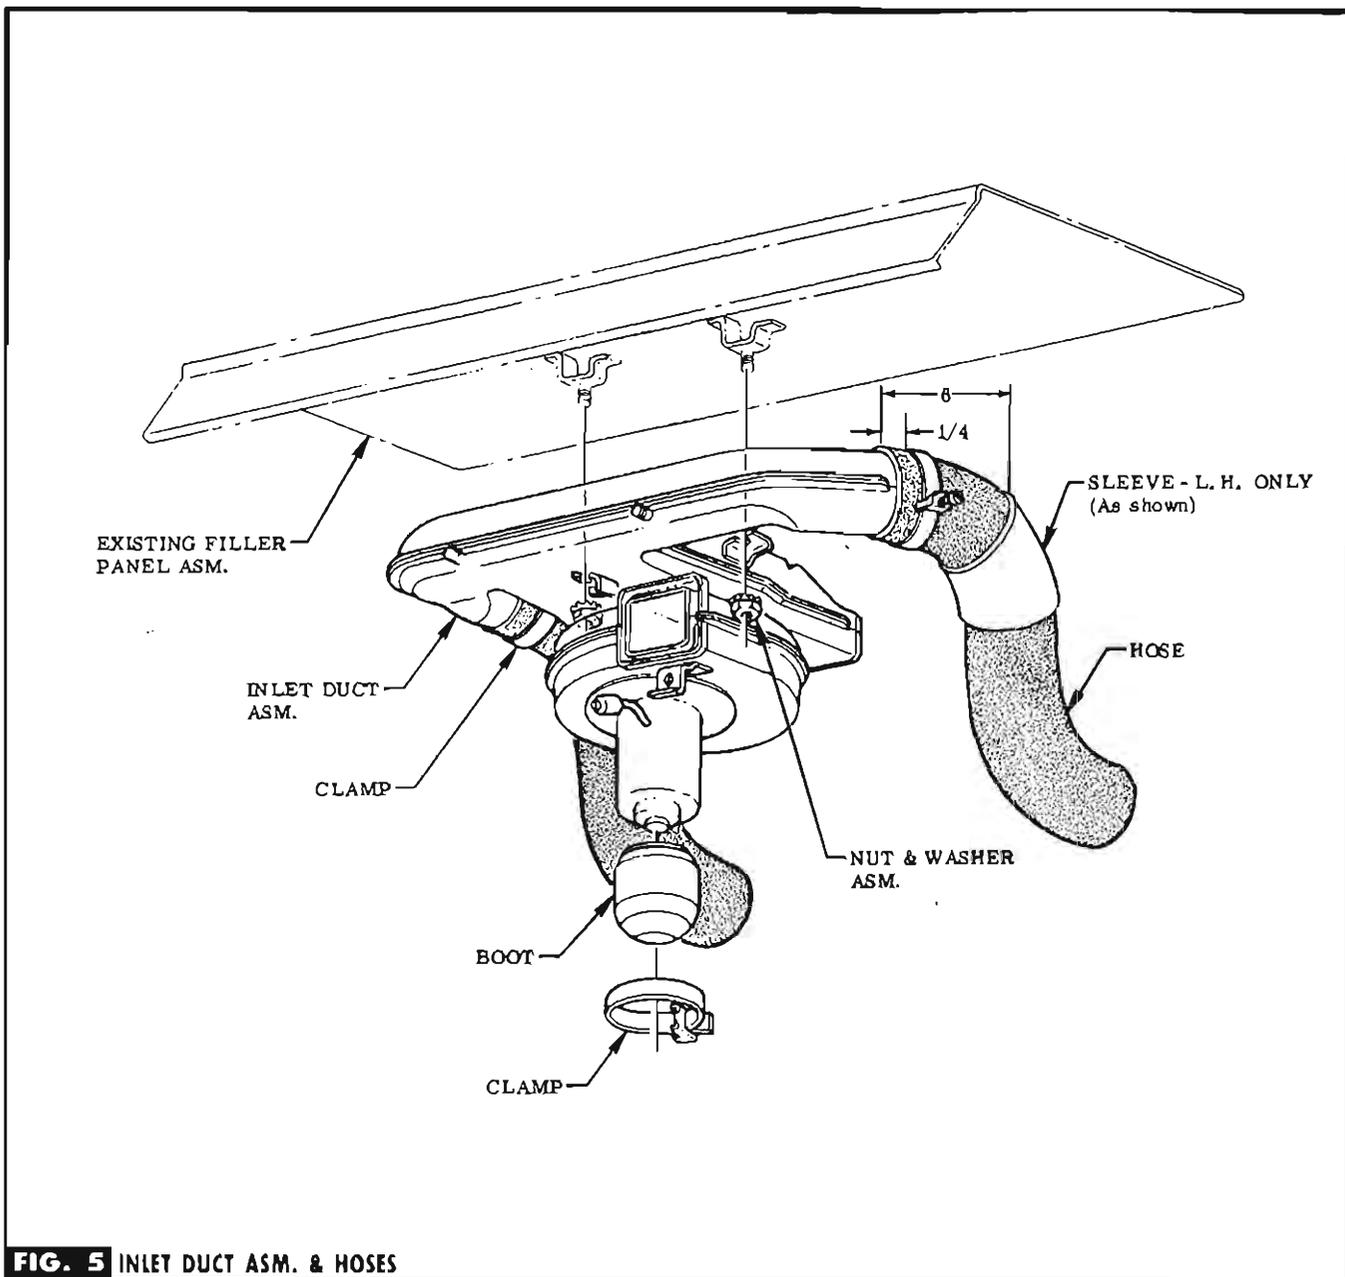

FIG. 5 INLET DUCT ASM. & HOSES
STEP 19 INSERT CLAMPS (IN BAG D) & SLEEVE (L. H. ONLY) ON HOSES & INSTALL ON INLET DUCT & TIGHTEN CLAMPS. SEE FIG. 5.
(IN BAG D). SEE FIG. 5.
STEP 21 LOOSELY INSTALL NUT ASM. (IN BAG C) TO FILLER PANEL, SLIP INLET DUCT ASM. ONTO STUDS & TIGHTEN. SEE FIG. 5.